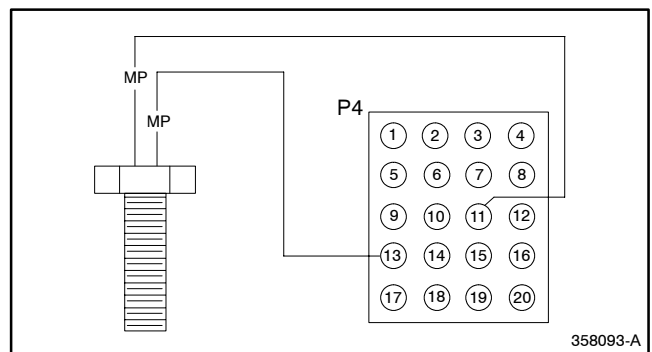

Figure 6-17 Magnetic Pickup Leads
4. Verify the operation of the sensor by connecting a voltmeter to the sensor leads. See Figure 6-17.